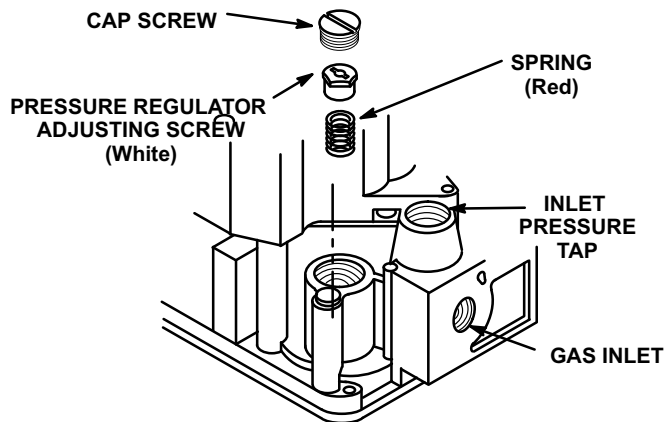
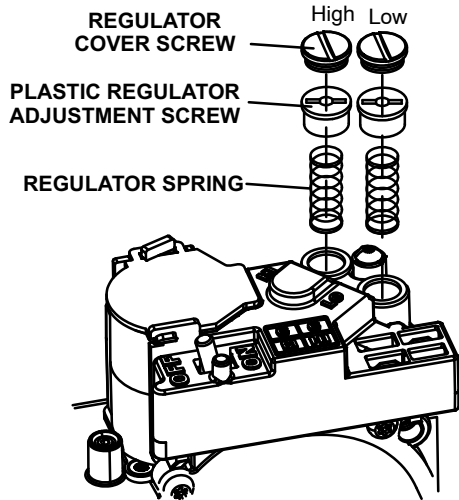

FIGURE 4
FIGURE 5
- 6- Install spring kit as shown in figure 4 for single-stage gas valves and figure 5 for two-stage gas valves. Also refer to the manufacturer's instructions provided with spring kit.